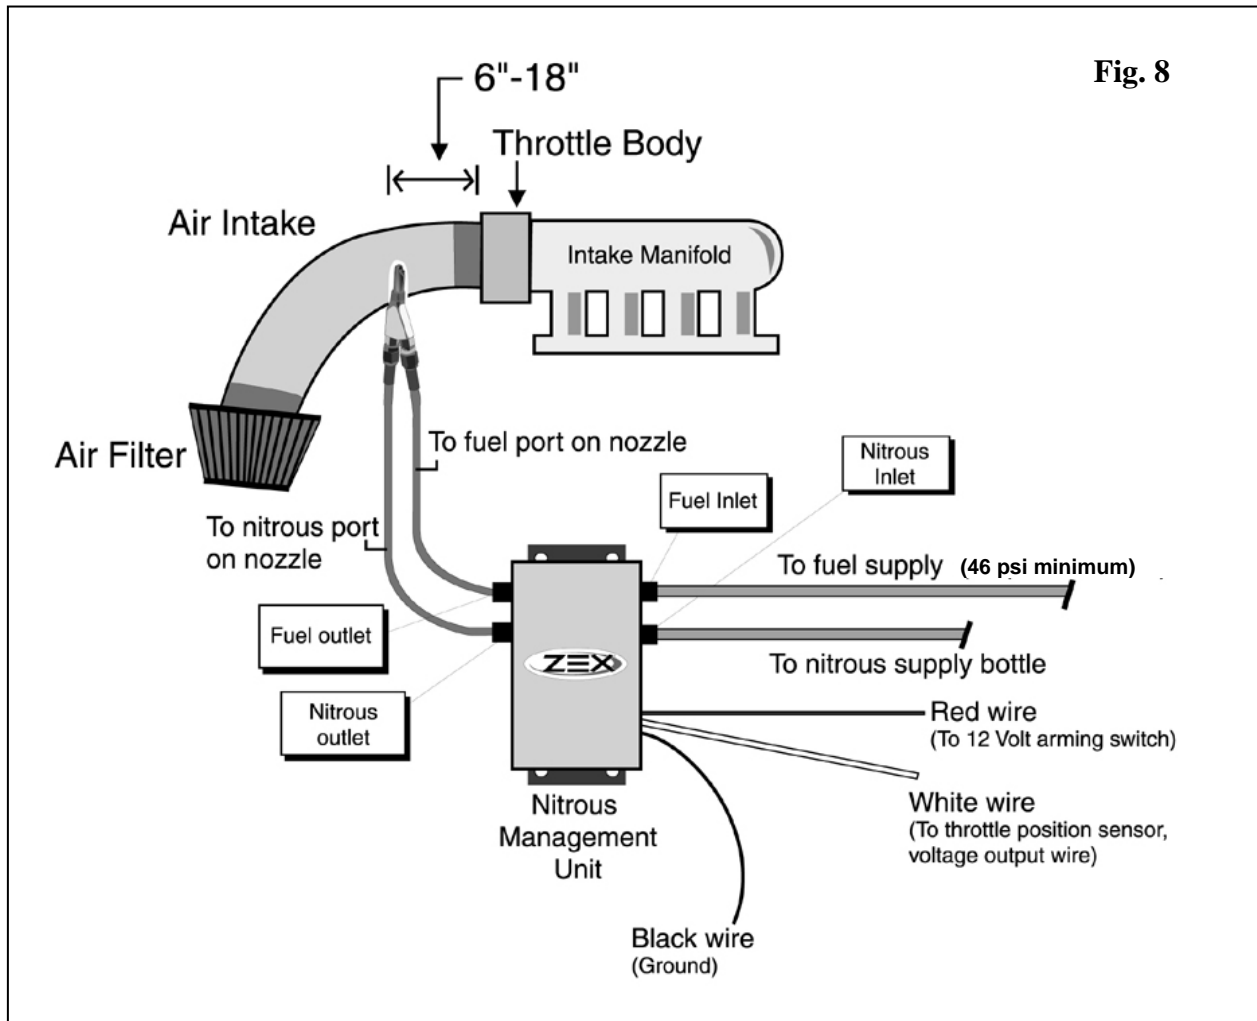

Fig. 8
- 5. Install nitrous nozzle.** Optimum nozzle placement is 6" to 18" from the throttle body; refer to Fig. 8 for the ideal nozzle location. This range of distance gives the nitrous, fuel, and air, the proper time to mix before it enters the intake manifold plenum. Remember, nitrous nozzles must always be mounted after the mass airflow sensor, never before them. After you have determined where to mount the nitrous nozzle (Fig. 6) in the intake, make sure this location won't interfere with other components. After you've found the spot, mark it and remove the air inlet duct from your engine. Drill a 9/16 inch mounting hole and install the bulk head fitting. Be sure to remove any drill shavings since they can severely damage your engine if injected. Install the nitrous nozzle so that the spray is in the direction of airflow. We've also enclosed a tap (Fig. 6) should you desire to mount the nozzle directly into a metal air intake tube. Just drill an 11/32 inch hole where you want to thread-in the nozzle, tap the hole and install the nozzle. Once installed, place the appropriate tuning jets in the nozzle and attach the 2-foot long, -3AN hoses to the nozzle jet fittings and the Nitrous Management Unit (Fig.5).
Connect one end of the TPS Resistor Wire to the vehicle's TPS voltage output wire. The correct TPS wire should have around .5 volts when the throttle blade is closed and around 4.5 volts when the throttle is opened fully. These are not exact voltage numbers, but simply give you an idea of the proper voltage you should be seeing. Connect the other end of the TPS resistor wire to the white wire from the Nitrous Management Unit. After these connections are completed, you need to install the arming switch/wire harness assembly. Find a suitable place in the interior of the vehicle for the arming switch and drill a 1/2 inch (.500) hole. Mount the switch and switch cover through this hole. Take the lead that the fuse assembly is attached to and find a suitable 12 volt accessory source of power under the dash. Use the T-tap electrical connector to splice into the 12 volt accessory wire and plug in the wire harness lead. Take the other lead from the arming switch and connect it to the red wire from the Nitrous Management Unit. As a reference for wire locations, use Fig. 8.